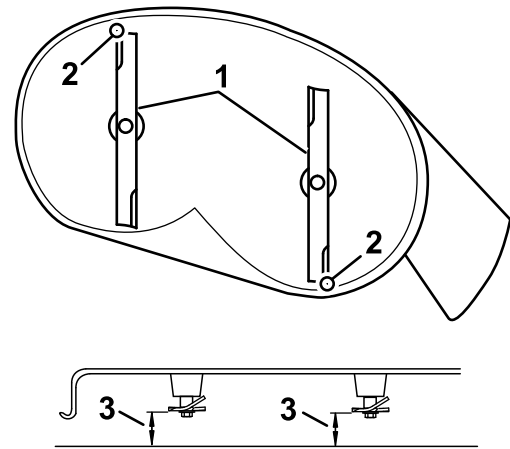

Figure 64
4. Carefully rotate the blades so they are facing front to rear (Figure 64).
5. Measure from the tip of the front blade to the flat surface and the tip of the rear blade to the flat surface (Figure 64).